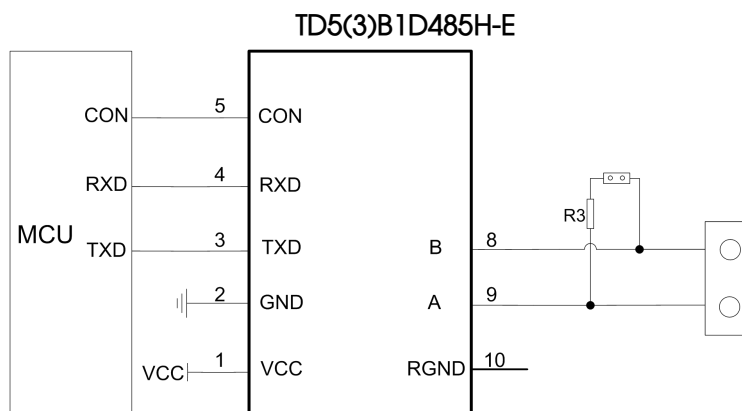

Fig.1
As shown in Figure 1, TD5 (3) 21D485H-E isolated transceiver module typical connection circuit, which TD5B1D485H-E module must use 5V power supply, the module TXD, RXD and CON pin interface matching level of 5V, does not support 3.3V system level, TD3B1D485H-E module must use 3.3V power supply, the module TXD, RXD and CON pin interface matching level of 3.3V, does not support 5V system level.
As the module internal A / B line comes with ESD protection, so users generally apply to the environment in good circumstances without additional ESD protection devices, as shown in Figure 1, the typical connection circuit. But if the application environment is relatively poor) such as high voltage power, lightning and other environments), it is recommended that users must be in the module A / B line side plus TVS tube, common mode inductors, Gas discharge tube, shielded twisted pair or the same network single point Earth and other protective measures. Therefore, the recommended application circuit shown in Figure 2, the recommended parameters as shown in the table. Recommended circuit diagram and parameter values for reference only, according to the actual situation to determine whether the need for circuit diagram of the device and the appropriate parameter values.